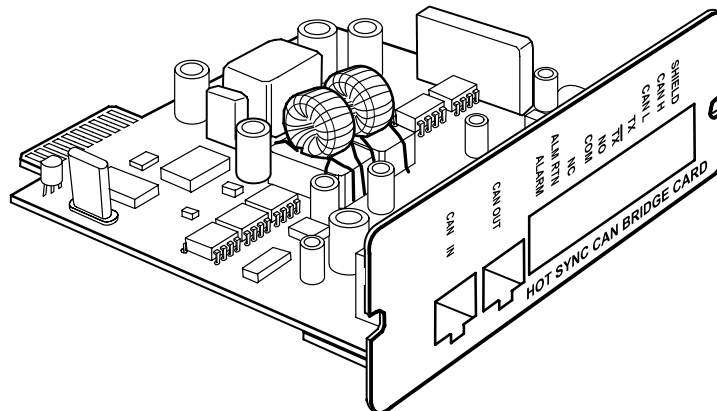

Figure 41. Powerware Hot Sync CAN Bridge Card
3. Unpack the Powerware Hot Sync CAN Bridge Card and verify that the card was not damaged during shipment (see Figure 41).